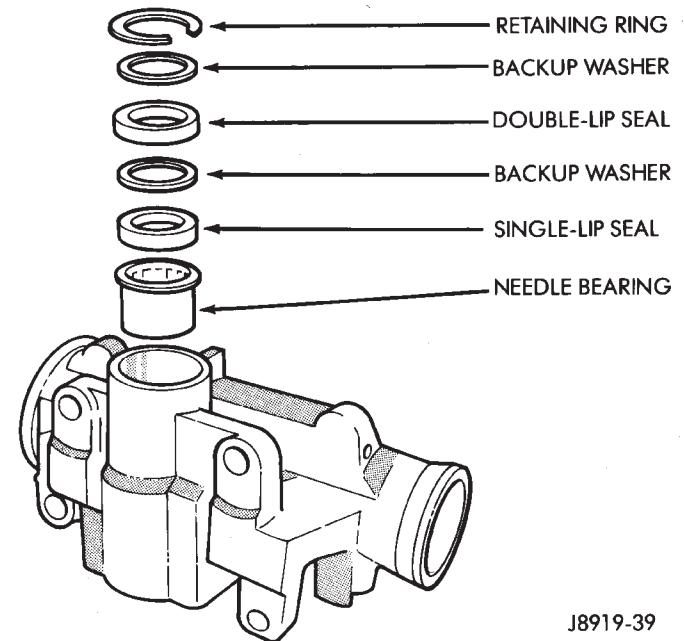

Fig. 36 Pitman Shaft Seals
(1) Remove pitman arm from gear. Refer to Pitman Arm Removal in Steering Linkage.
(2) Clean exposed end of pitman shaft and housing. Use a wire brush to clean the shaft splines.
(3) Remove retaining ring with snap ring pliers (Fig. 36).